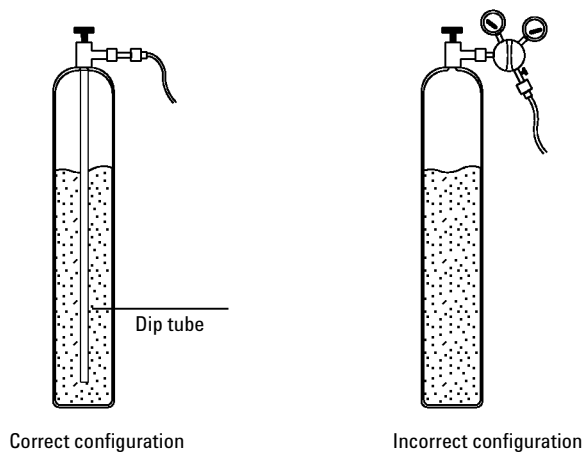

Figure 520-4 Correct and incorrect liquid CO₂ tank configuration
- The tank must have an internal dip tube or eductor tube to deliver liquid CO₂ instead of gas (see Figure 520-4).